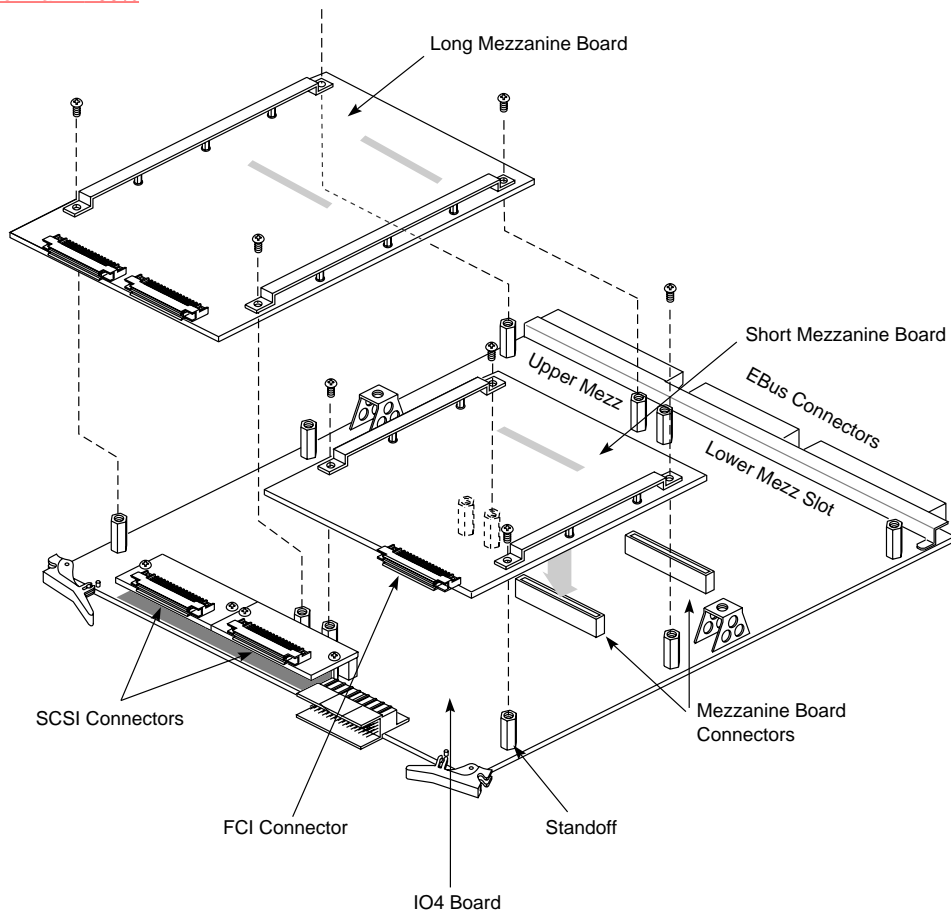

Figure 2-26 IO4 Board with Mezzanine Boards
2. Lay the board on a flat antistatic surface so that the component side faces up and the SCSI connectors face toward you, as illustrated in Figure 2-26.
3. Locate the selected mezzanine slot (upper or lower) and remove the four screws from the standoffs, as illustrated in Figure 2-26. If the screws are missing, this is not a problem.
5. Position the mezzanine board onto the selected slot so that the connector on the bottom of the mezzanine board matches the mezzanine board receptacle on the IO4 board and the standoffs match the board's holes. Figure 2-26 illustrates the correct positioning for the upper and lower slots.